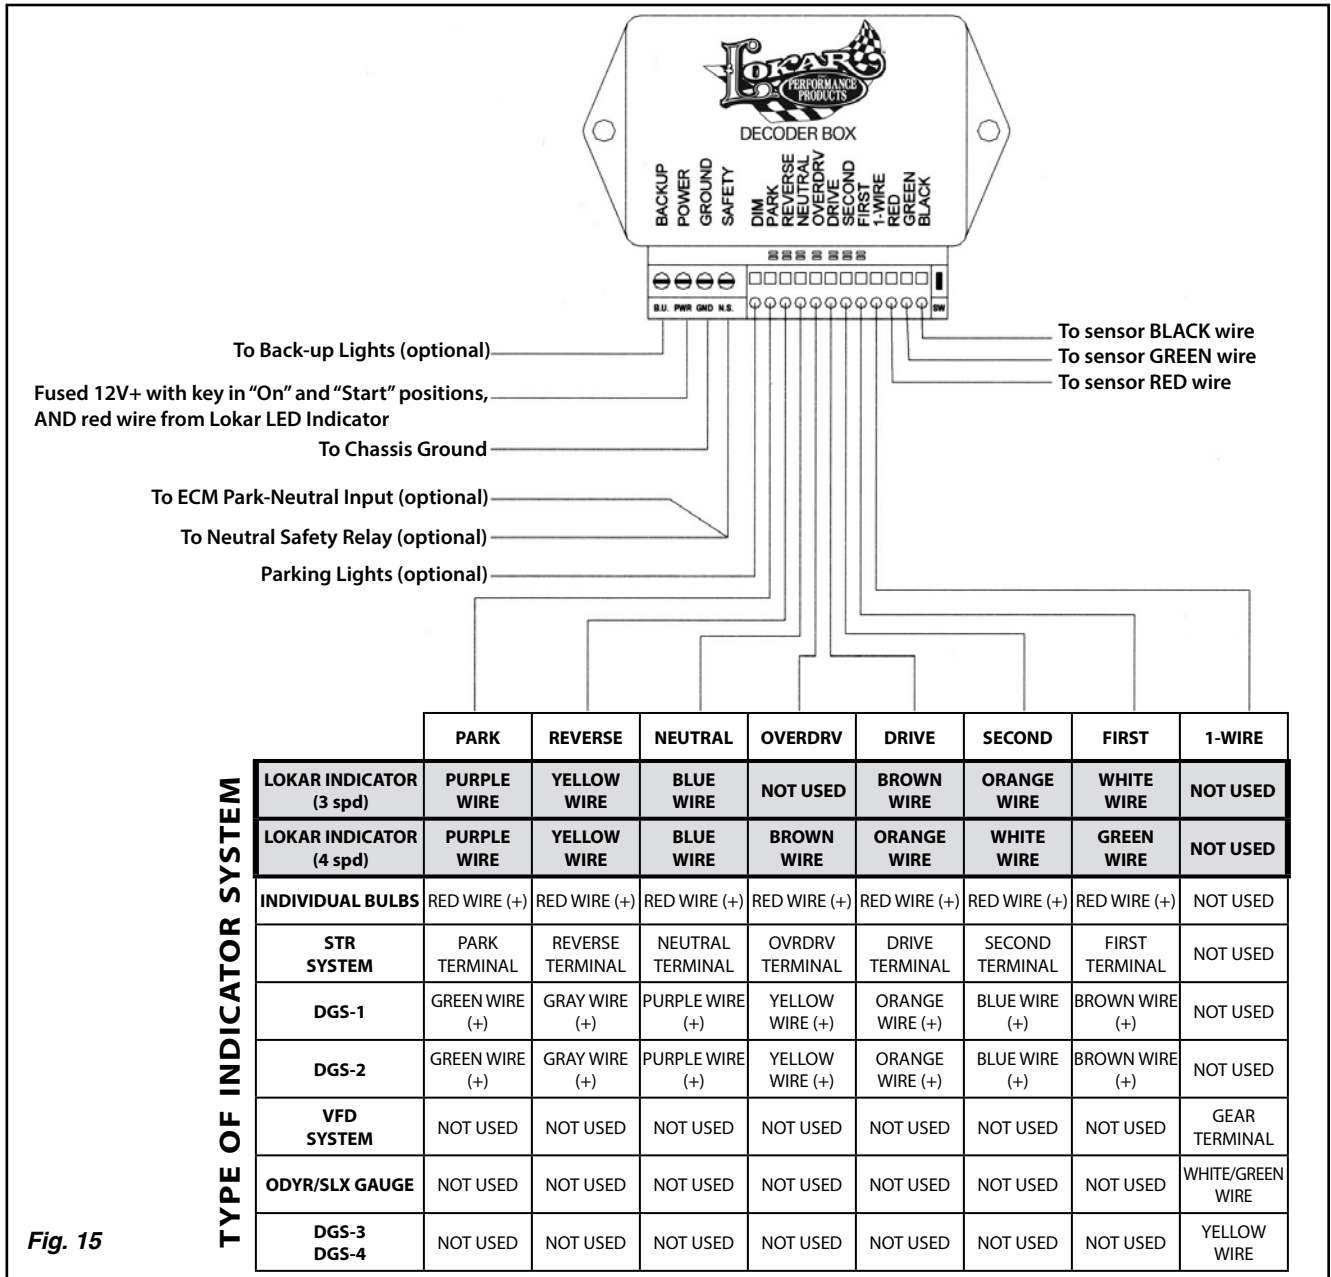

Fig. 15
Connect a solid chassis ground to the "GROUND" terminal on the decoder box. **Fig. 15**
- Step 13:** Following the wiring diagram in **Fig. 15**, connect the rest of the wires from the LED indicator to the decoder box.
- Step 14:** Following the wiring diagram in **Fig. 15**, connect the rest of the wires from the LED indicator to the decoder box.